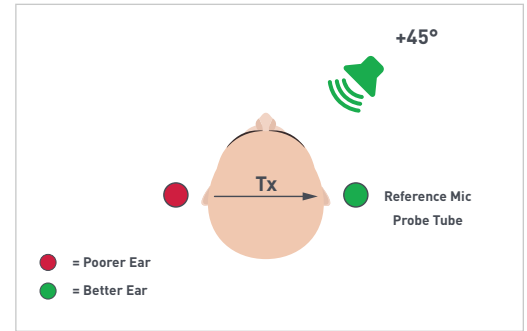

Figure 4
**Step One:** Measure the real-ear aided response (REAR) for the better ear: [Fig. 4]